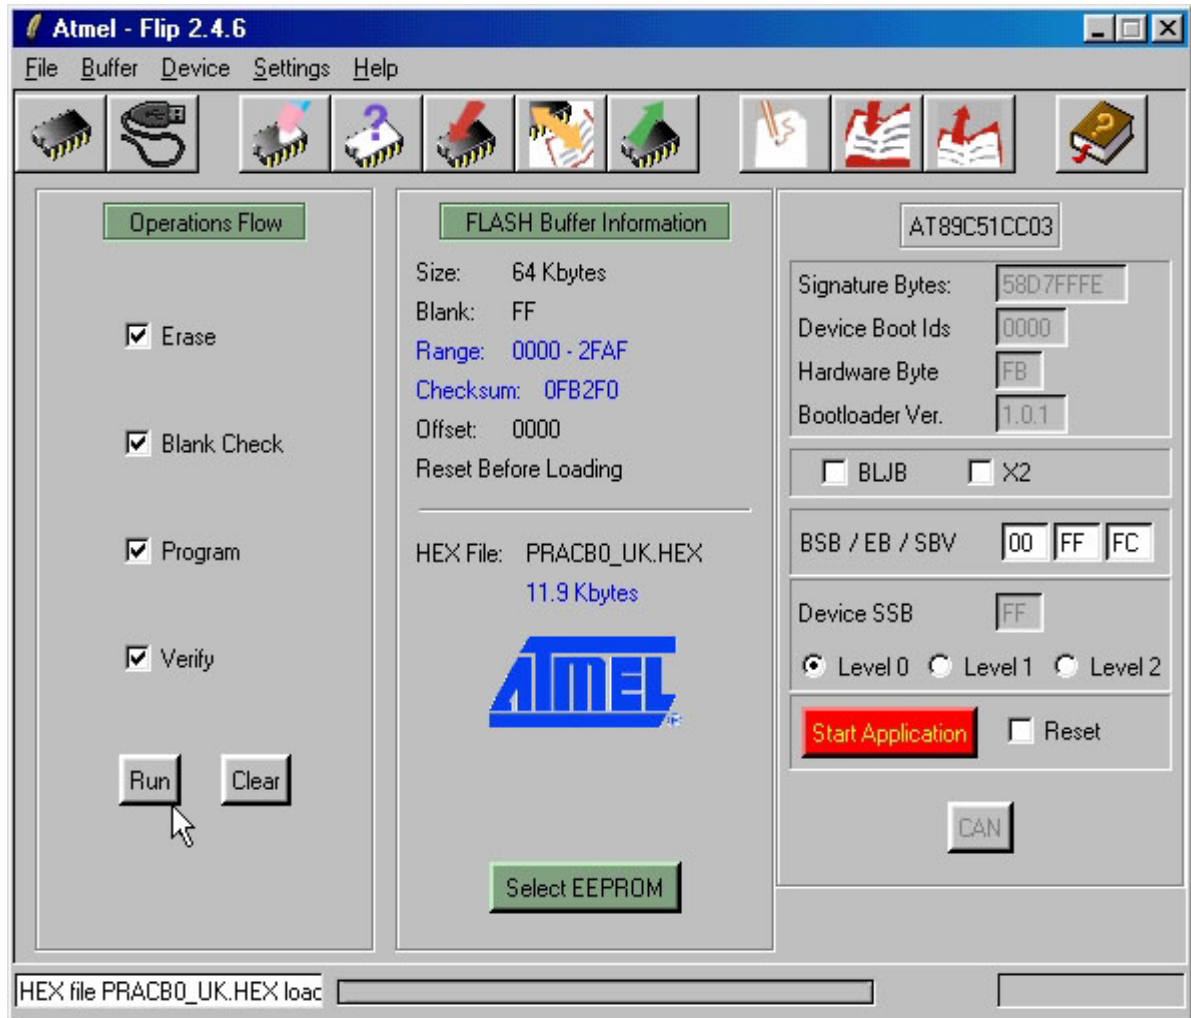

FIGURE 21: FLIP SETTINGS WINDOWS (3 OF 3)
- C11) Select all the check boxes in the frame *Operations Flow* as in figure 21, in order to let **FLIP** execute in sequence the four operations: erase, blank check, program and verify.
- C12) At this point make sure that main windows of **FLIP** looks like figure 21; in details the data in the *Size*:, *X2*, *Device SSB* and *BSB / EB / SBV* boxes must exactly match.